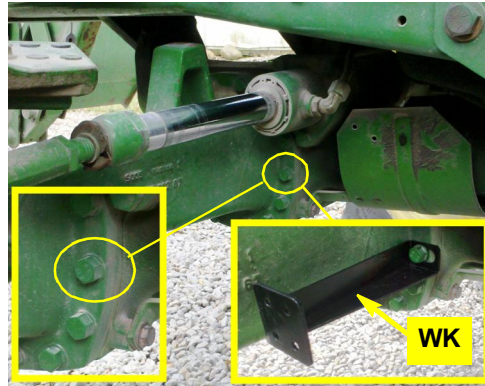

Figure 2a: WAS bracket installed
- a. Remove the second bolt below the steering cylinder on the rear of the front axle (Figure 2a and left inset). Using that bolt, install WAS bracket **WK** (Figure 2a - right inset).